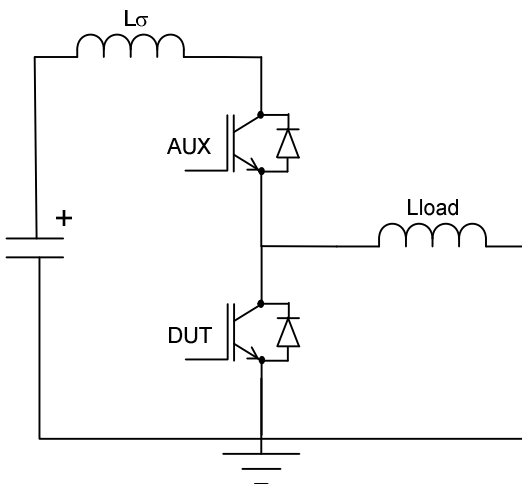
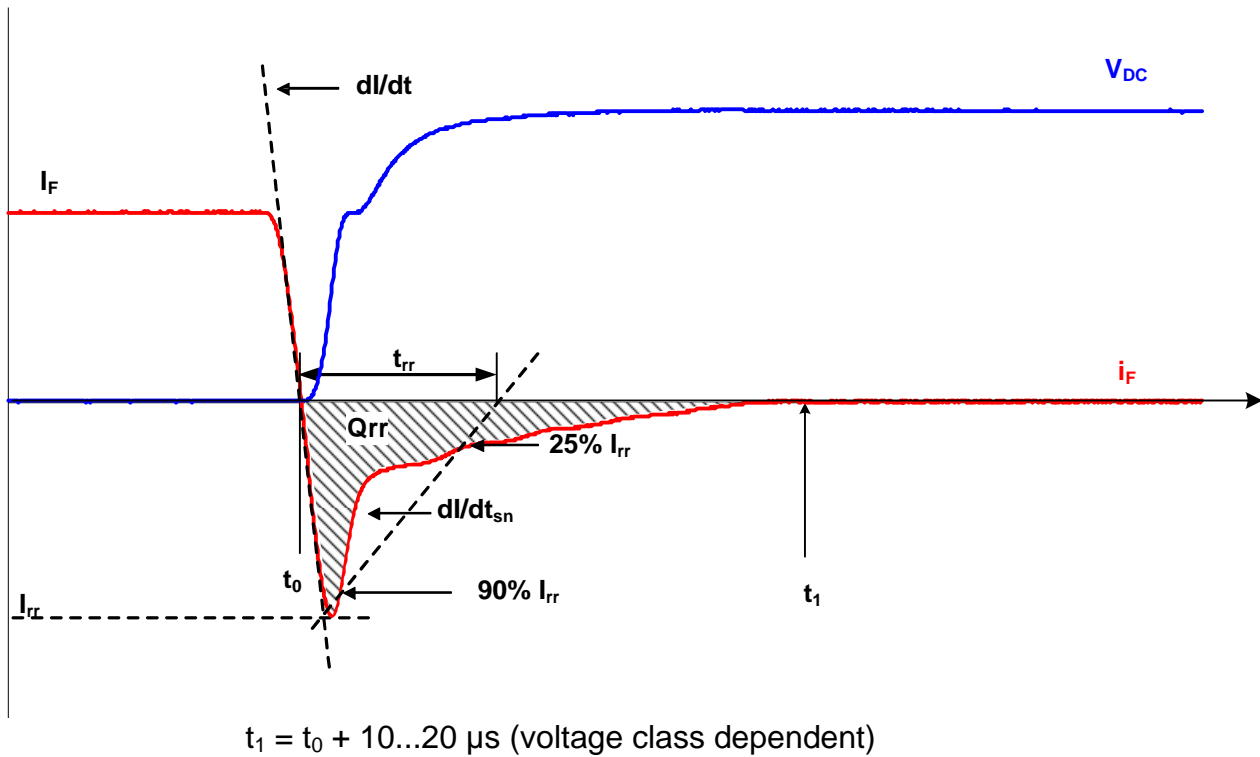

Fig. 6 Test circuit for the dynamic performance of the Diode
Fig. 7 Definitions for the turn-off parameters for the Diode
All switching parameters are defined in a phase leg connection using an auxiliary component of the same type as the device under test (DUT), see Figure 6. For the definitions of the different switching parameters see Figure 7. All switching parameters in the ABB data sheet are specified for inductive load.
**$E_{rec}$ :** *Reverse recovery energy.* The energy dissipated during a single reverse recovery event. It is the integration of the product of the reverse current and voltage from  $t_0$  to  $t_1$  (see Fig. 7) as expressed by Equation 5.
The curves show typical values of turn-off parameters for the diode as a function of the forward current at the specified conditions using the circuit of Fig. 6.
The curves show typical values of turn-off parameters for the diode as a function of the rate of decline of the forward current at the specified conditions using the circuit of Fig. 6. The resistance values indicate the gate resistance for the auxiliary devices giving the corresponding di/dt at the specified conditions.